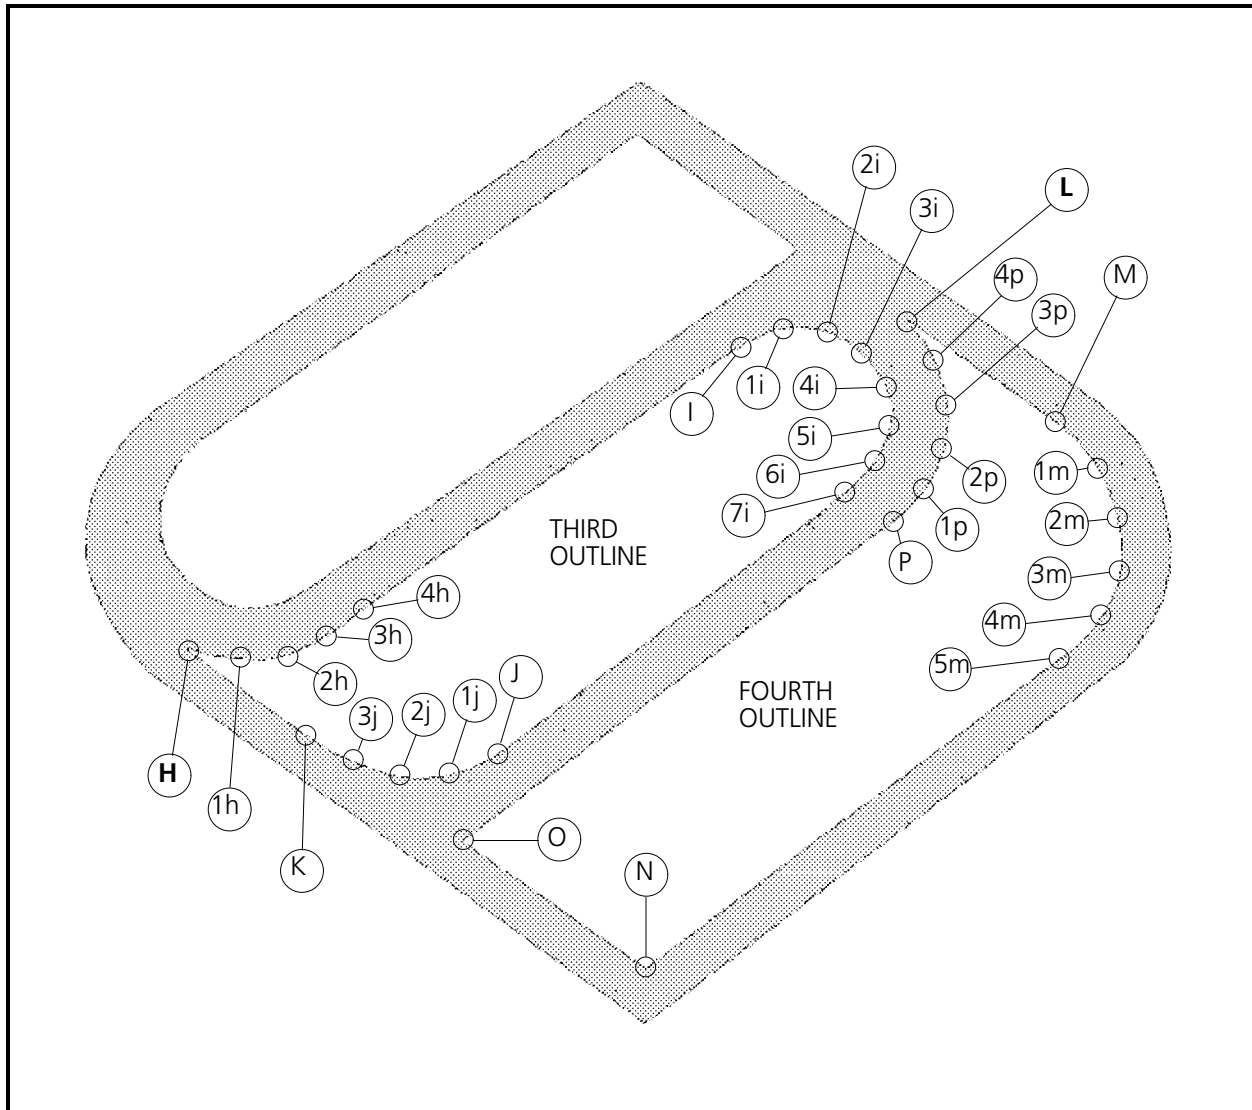

Figure 6-83
1. Continue to follow the points shown in Figure 6-83 in their alpha-numeric order. Enter the Mk1 from H through to the last Mk4 at location 4p near the top point of the lower section of the logo. Enter Mk1s at the capital letter points defining lines, and Mk4s at the numbers associated with lower class letters defining arcs.